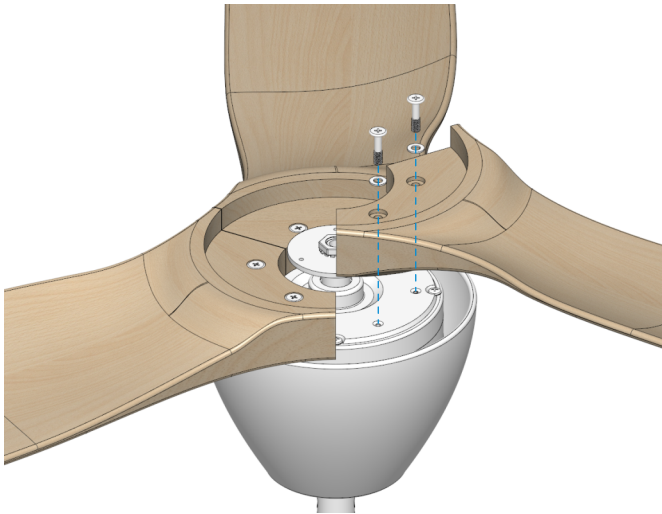

Fig. 1.1
1.1 Locate the 6 blade attachment screws and washers included in the hardware pack. Use these screws to firmly attach each blade to the motor hub, as demonstrated in Fig.1.1.